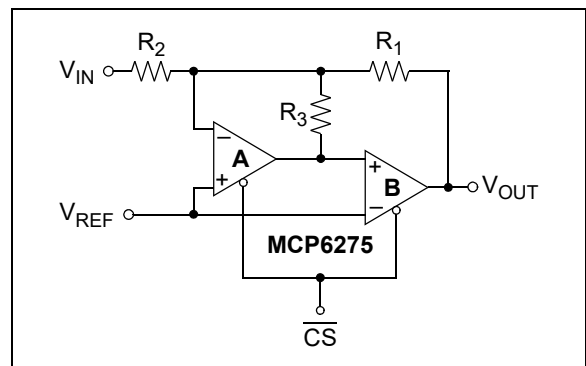

FIGURE 4-16: Capacitorless Second Order Low-Pass Filter with Chip Select.
The low-pass filter shown in Figure 4-16 does not require external capacitors and uses only three external resistors; the operational amplifier's GBWP sets the corner frequency. Resistors R_1 and R_2 are used to set the circuit gain. Resistor R_3 is used to set the quality factor (Q). To avoid gain peaking in the frequency response, Q needs to be low (lower values need to be selected for R_3). The amplifier bandwidth varies greatly over temperature and process. However, this configuration provides a low-cost solution for applications with high bandwidth requirements.